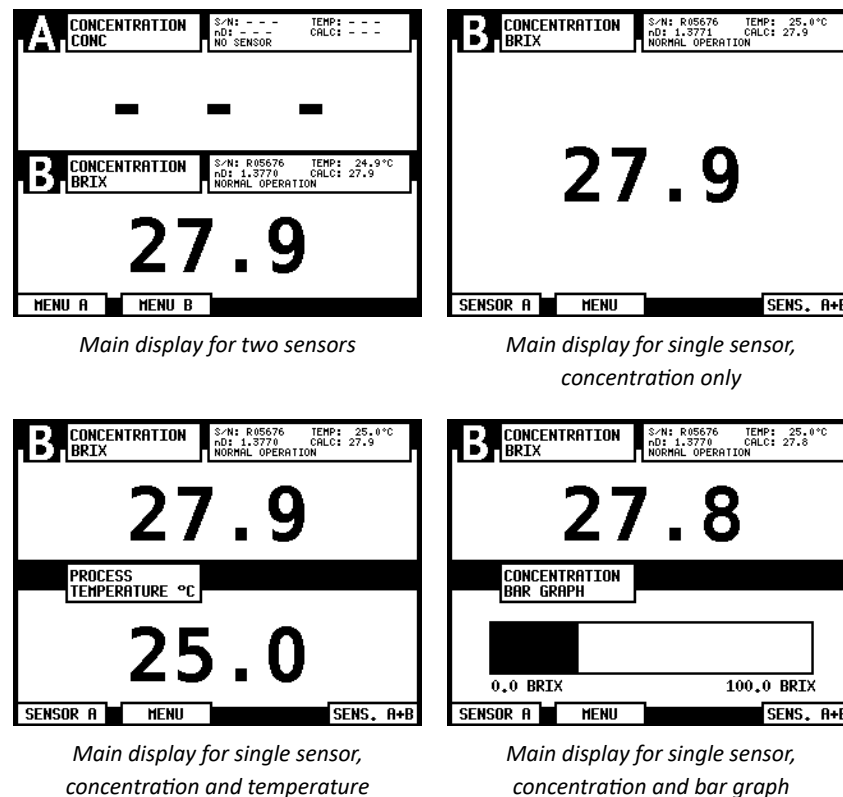
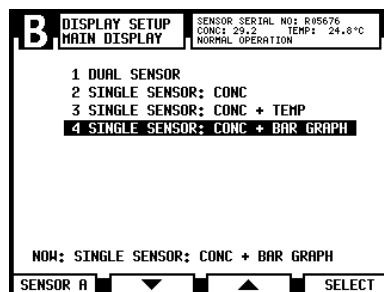

Figure 5.1 Main display alternatives
Figure 5.4 Main display format selection.
3. The Main display should come up on the display, Figure 5.1.
4. In case the display shows a row of dashes, there is no corresponding sensor (for example in Figure 5.1, upper left, there's no sensor A, only sensor B is connected). The diagnostic message is for that sensor NO SENSOR.
Main display format: As you can see in Figure 5.1, there are four different Main display formats: the dual sensor format shows information on both sensors while the three different single sensor formats show selected information on one sensor at a time. Choose 1 MAIN DISPLAY FORMAT in the Display setup menu to change the Main display. The current format is shown on the display format selection display, see Figure 5.4 below.